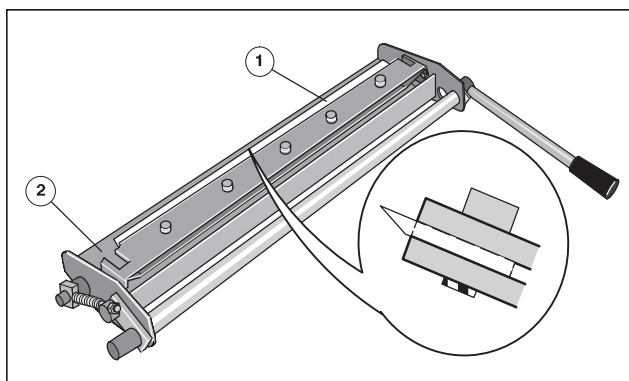

Fig. 71 Inking roller washup device, PU 2
7. **Clean** the plastic lip (Fig. 71/1) and sludge pan (Fig. 71/2) with roller wash.